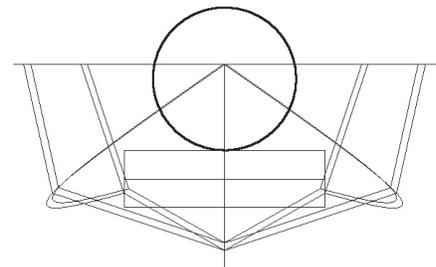

Fig. 11
Step 9. Key-in **1.5, 1.4** and press ENTER, **Fig. 11.**